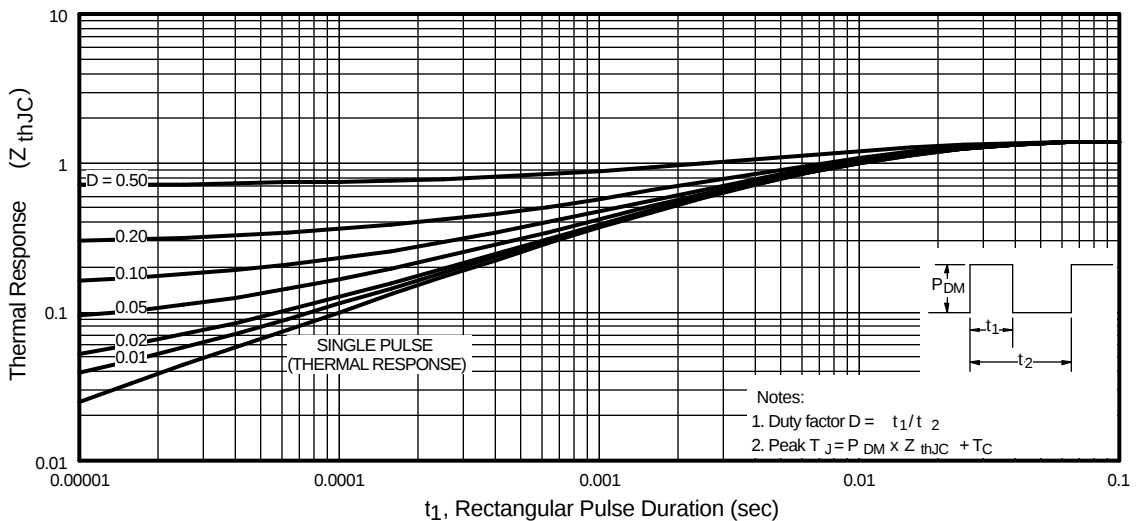

Fig 11. Maximum Effective Transient Thermal Impedance, Junction-to-Case
- ① Repetitive rating; pulse width limited by max. junction temperature. (See fig. 11)
- ② $V_{DD} = -25V$, Starting $T_J = 25^\circ\text{C}$, $L = 2.1mH$